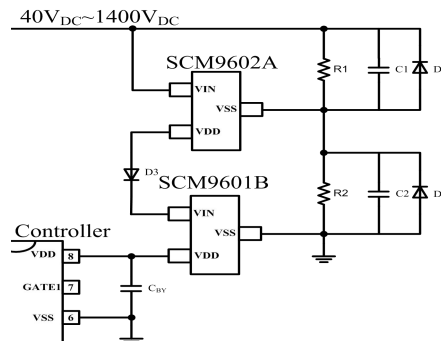

Fig. 7 Input 40VDC~1400VDC application circuit (SCM9601BTA and SCM9602A are used in series)
2. When applied to a higher input voltage range, it is recommended to use our SCM9602A, please refer to Fig.7.  $C_1$  and  $C_2$  are input high-voltage storage capacitors to slow the fluctuation of input voltage;  $R_1$  and  $R_2$  are equalization Resistance, avoiding the uneven voltage problem caused by the difference between  $C_1$  and  $C_2$  leakage current;  $D_1$ ,  $D_2$  and  $D_3$  are used to solve the current backflow problem caused by the large difference between  $C_1$  and  $C_2$  leakage current.